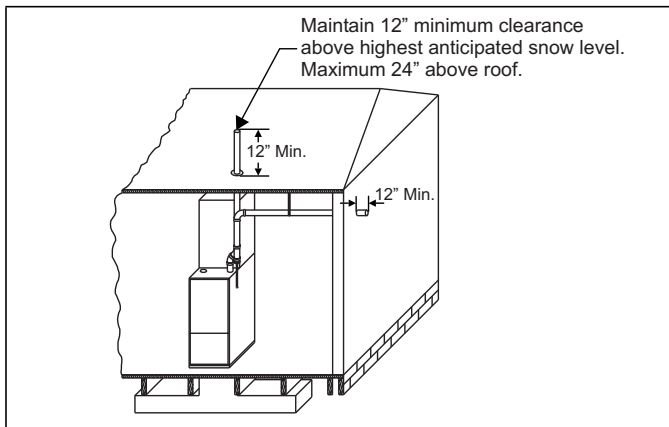
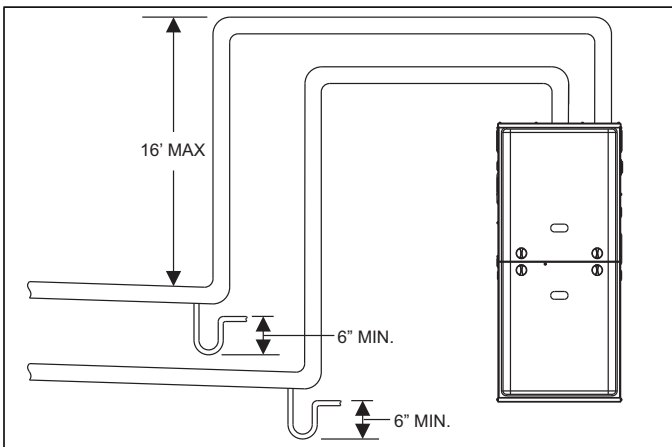
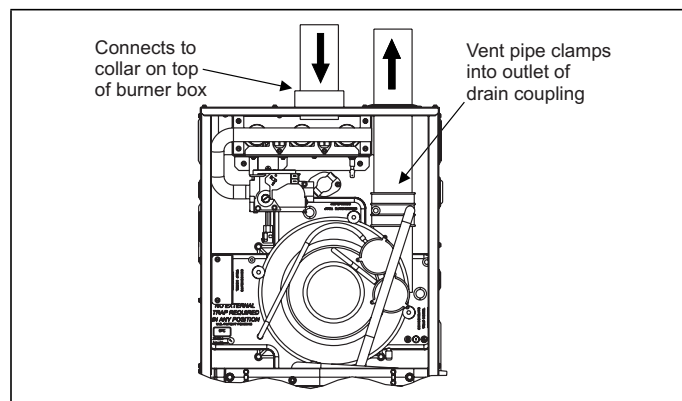
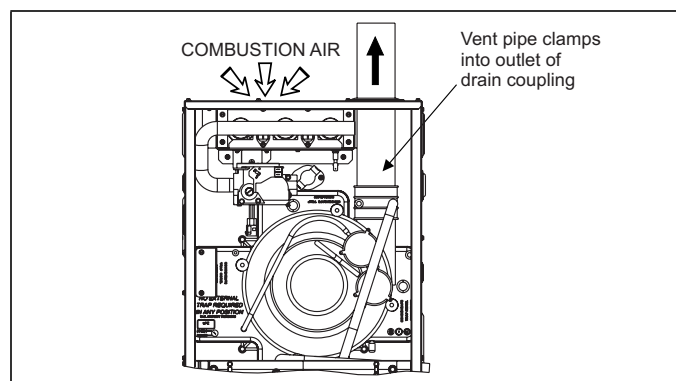

FIGURE 27: Termination Configuration - 1 Pipe
FIGURE 32: Downward Venting
FIGURE 33: Direct Vent Air Intake Connection and Vent Connection
FIGURE 34: Combustion Airflow Path Through The Furnace Casing
The combustion air side of the single pipe configuration shown in Figure 34 is referred to in these instructions as ambient combustion air supply. Follow the instructions for ambient combustion air installations, paying particular attention to the section on air source from inside the building. The vent for a single pipe system must be installed as specified in the venting section of these instructions with both vents terminating as shown in Figure 27. Each furnace must have a separate vent pipe. Under NO circumstances can the two vent pipes be tied together.
1. **OUTDOOR COMBUSTION AIR:** This is a direct vent configuration where the combustion air is supplied through a PVC or ABS pipe that is connected to the PVC coupling attached to the furnace and is terminated in the same atmospheric zone as the vent. This type of installation is approved on all models. Refer to Figure 33.
2. **AMBIENT COMBUSTION AIR:** Combustion air is supplied from the area surrounding the furnace through openings in the furnace casing. The combustion air and the vent pipes are not terminated in the same atmospheric zone. Refer to Figure 27 for vent terminations. Refer to "Ambient Combustion air Supply" for proper installation. Refer to Figures 33 and 34.
This installation requires combustion air to be brought in from outdoors. This requires a properly sized pipe (Shown in Figure 32) that will bring air in from the outdoors to the furnace combustion air intake collar on the burner box. The second pipe (Shown in Figure 33) is the furnace vent pipe.